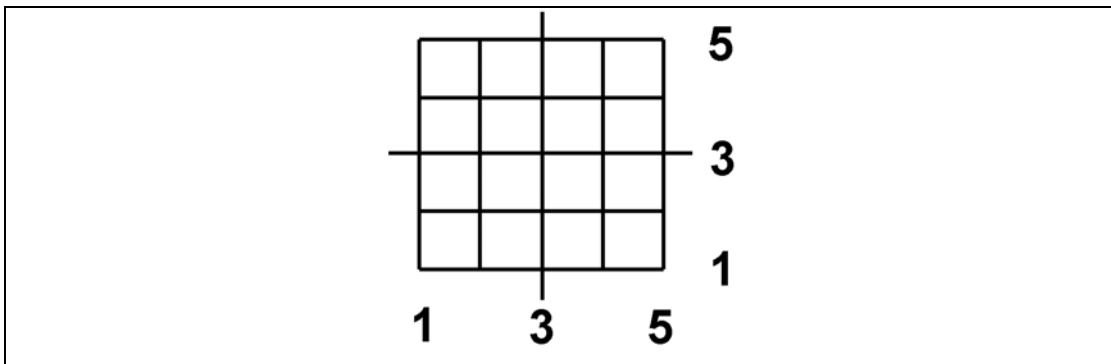

Figure B-12. Example boresight test panel.
c. **Boresight Test Panel.** Use a special test panel to test the equipment. The panel is a scoring grid of 2-inch squares. Figure B-12 shows an example panel. Your local TSC must produce the actual-size drawing. With the panel 52 meters from the end of the 25-mm gun barrel, each 2-inch square of the scoring grid, as seen through the boresight telescope, measures 1 mil high and wide. This grid allows the tester to observe the location of the boresight aiming point. The tester then records the aiming point on the scoresheet.